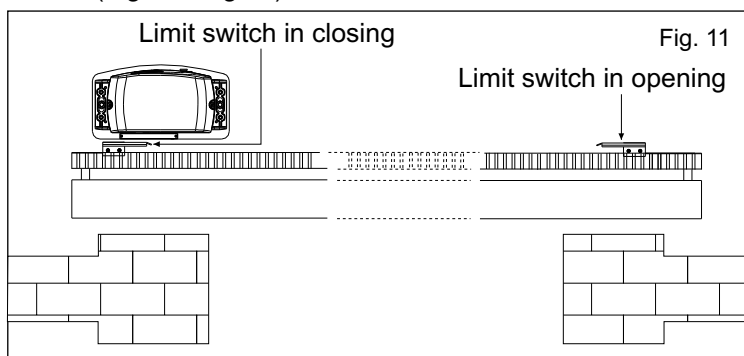

Fig. 11
**6.1.** In order to install and adjust the limit switch in opening, follow the below mentioned instructions (Fig. 11):
**6.2.** In order to install and adjust the limit switch in closing, follow the below mentioned instructions (Fig. 11):